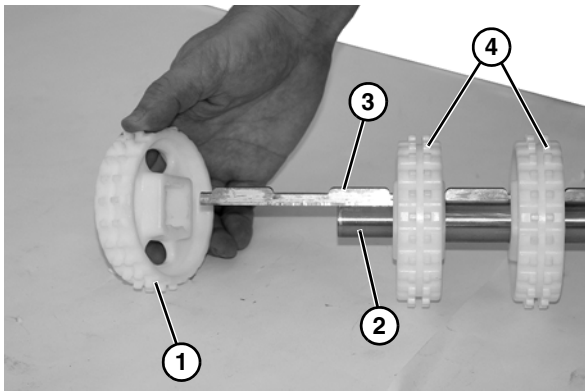

Figure 40
7. Slide entire sprocket assembly slightly outward, and remove the first sprocket (**Figure 40, item 1**) off the drive spindle (**Figure 40, item 2**) and alignment bar (**Figure 40, item 3**).
8. Remove remaining sprockets (**Figure 40, item 4**) off the alignment bar as you slide entire assembly off the drive spindle.
10. Install second sprocket and subsequent sprockets (**Figure 40, item 4**) one by one, while sliding entire assembly onto alignment bar (**Figure 40, item 3**) and spindle (**Figure 40, item 2**).